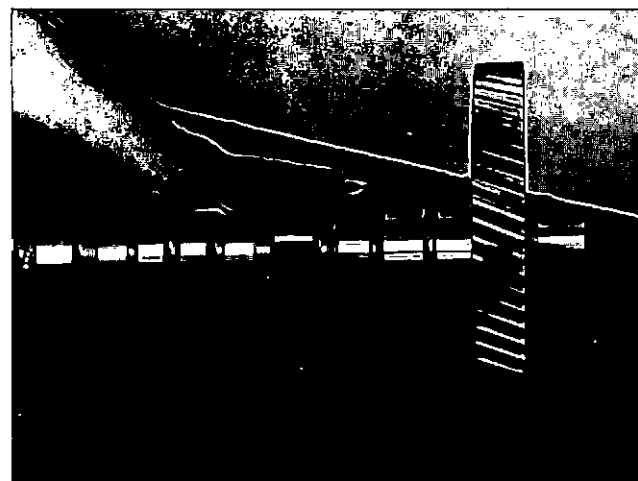

Fig. 14-20 (N114253). Install The Thrust Ring Onto The Camshaft.
2. Apply a coat of lubriplate to both sides of the thrust ring. Install the thrust ring onto the camshaft. Make sure that the oil grooves on the thrust ring are toward the camshaft gear, Fig. 14-20.